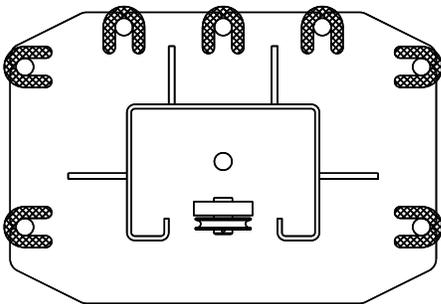

Fig. 3 – Column Shimming
- 14) Check idler column shimming. Use additional shims (see Fig 3) to remove any gaps that may have been created while installing overhead beam. Tighten anchor bolts and re-check column for plumb. Torque to 150 foot-pounds.